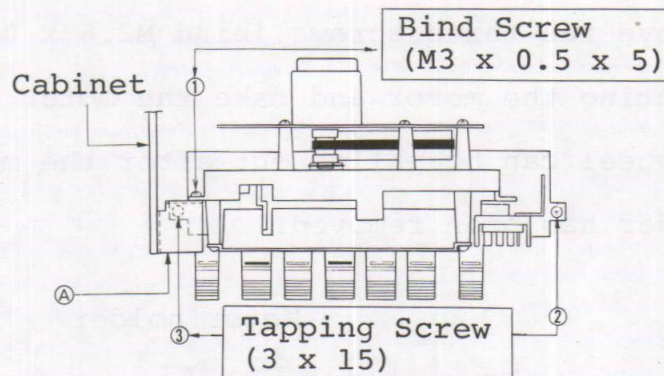

Fig. 5
- 2) Remove screws (1) and (2) shown in Fig. 5. Next, remove holder (A) held in place with screw (1) and remove screw (3) beneath the holder. Then the mechanism assembly can be lifted up.